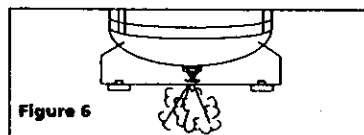

Figure 6
2. With compressor shut off and pressure released: Drain moisture from tank by opening drain cock underneath tank (See Figure 6).